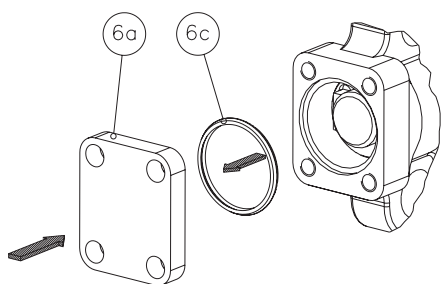

FIGURE NO. 6A
- solution 1 - ref. to figure no. 6a: align the internal slot of the seal ring (3a) to the reference pin (F).
- solution 1 - ref. to figure no. 6a: make sure that the slot on the edge of the seal retainer ring (B) is in correspondence with reference pin (F).
Use a torque value from Table 3 for valves according to solution 1 (ref. to figure no. 6a).
• *Solution 1 - ref. to figure no. 6a:*